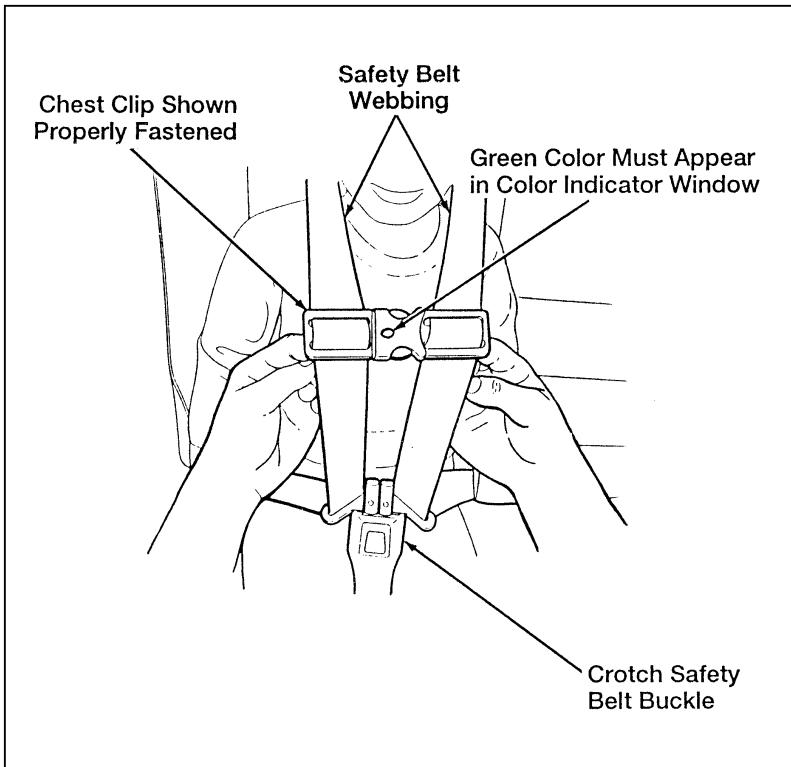

Figure 12: Securing the chest clip
10. Tug on the crotch safety belt buckle and the chest clip to ensure they are properly fastened. Refer to Figure 12.